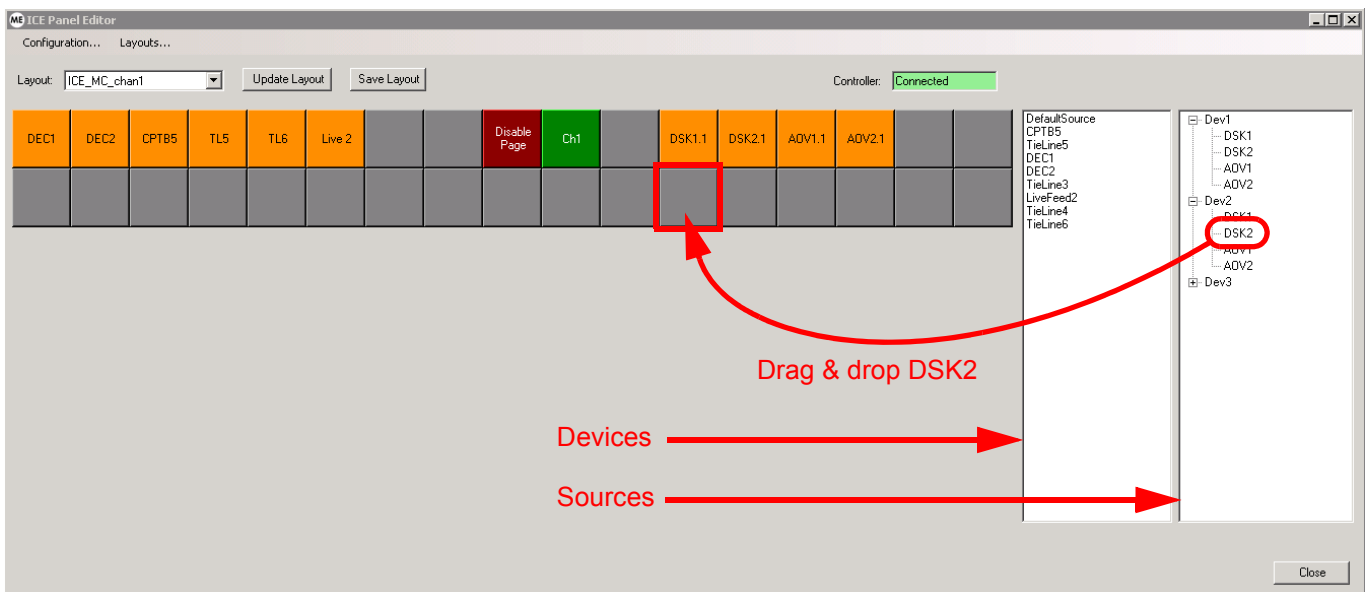

Figure 237 Creating a Panel Layout
- Drag & drop a source or device onto empty cell on the layout stencil (Fig. 237)